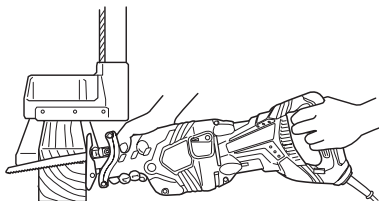

Fig. 23
- (1) When cutting lumber, make sure that the workpiece is fastened firmly before beginning. (Fig. 23)